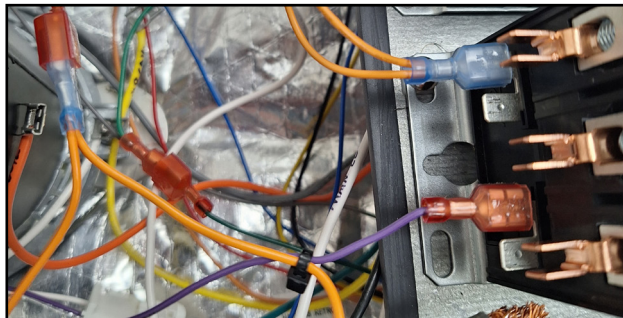

Fig.103
19. Connect the purple female wire ziptied to the orange wires on the harness to the left side coil on the main(middle) relay. (Fig.103)